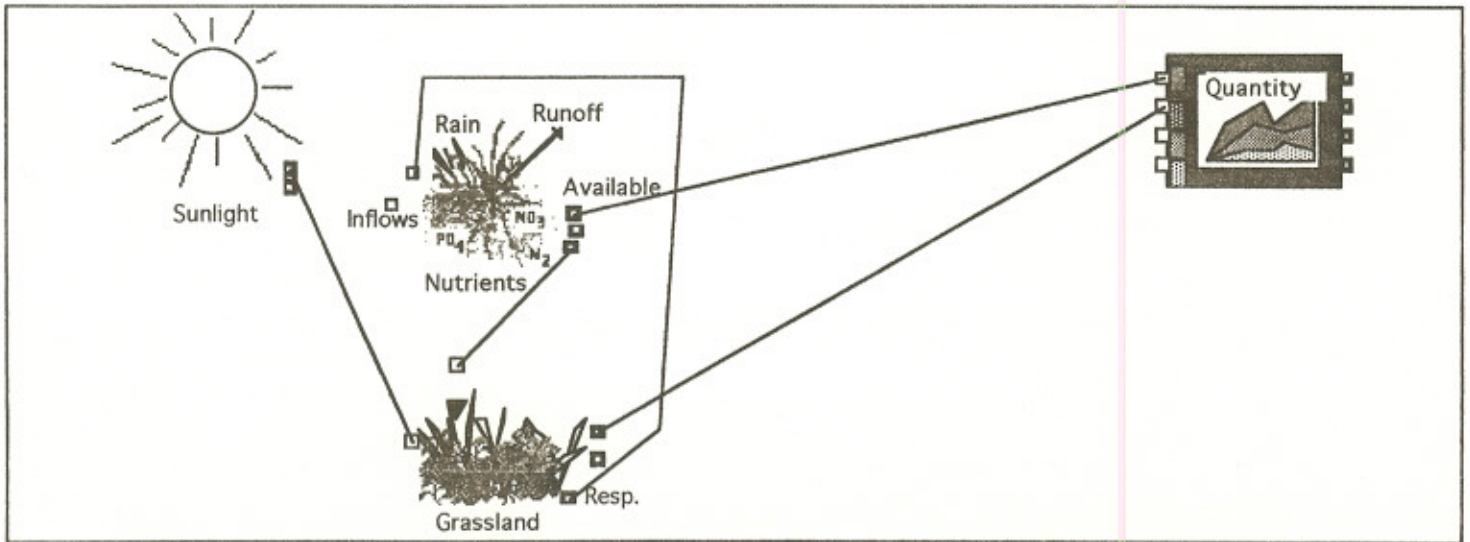
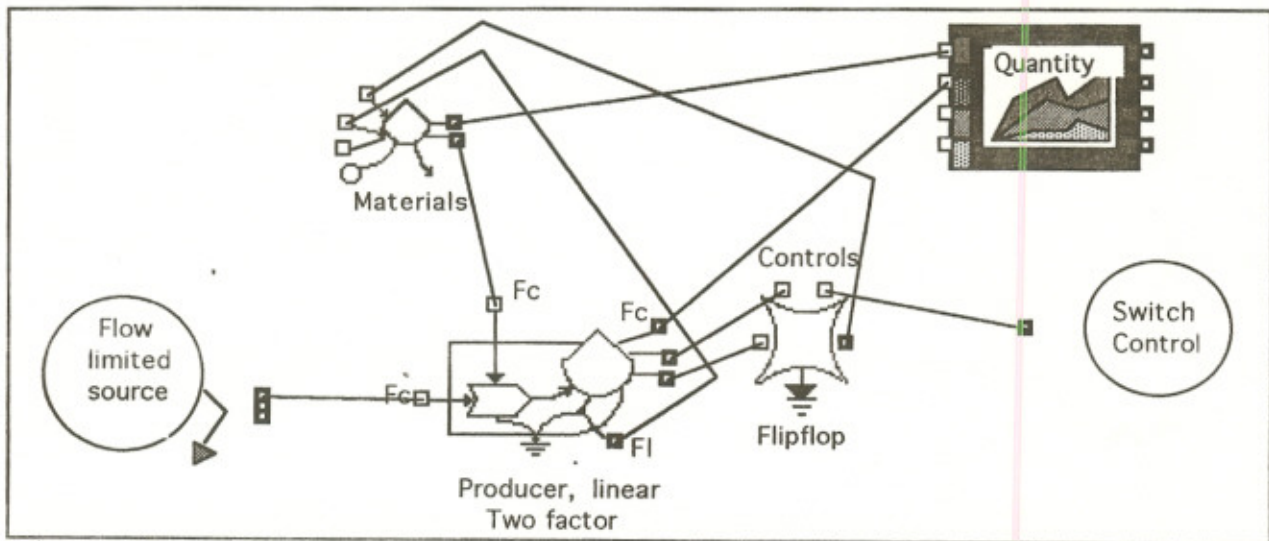

Figure 24. Model of grassland with sun, grassland and nutrients.
Figure 30. Model of grassland ecosystem using general system symbols.
6. Connect the quantities you want to be graphed - amount of nutrients and grassland biomass - to the plotter. (Figure 24).
1. To make the grassland model with the General Symbols (Figure 21), you open the **Grassland, general symbols** model using **File, Open**. In this new model, each picture block in the grassland model (Figure 24) has been replaced with a general symbol (producer, consumer etc.) (Figure 30).